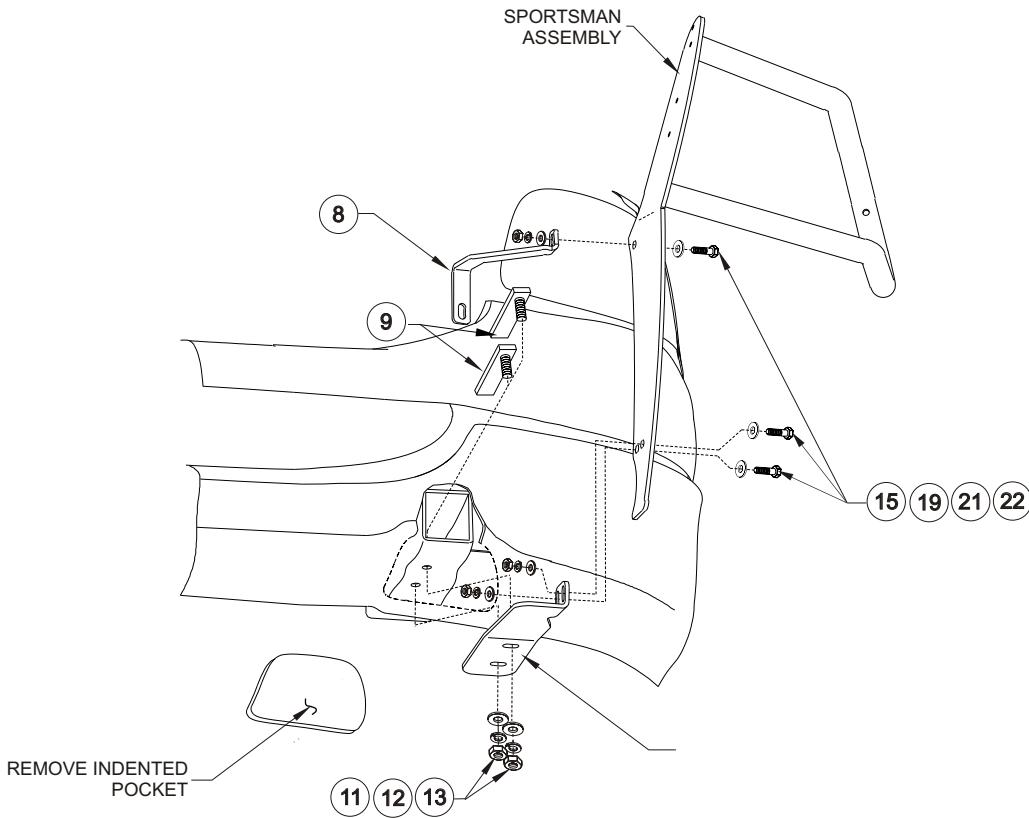

FIGURE 3
STEP 4. Insert two bolt plates through the end of the frame and into bottom frame holes. **NOTE:** It may be necessary to remove the lower plastic portion of the bumper to gain access to ends of the frame rails. The indented pockets in the lower bumper will need to be cut out to allow bottom brackets to pass through. **SEE FIGURE 3.**
- STEP 6. Determine passenger and driver uprights, hood bar/top tube assembly, center tube and bottom tube. **NOTE:** Uprights are positioned so raised side of bolt holes are facing each other. **SEE FIGURE 3.**